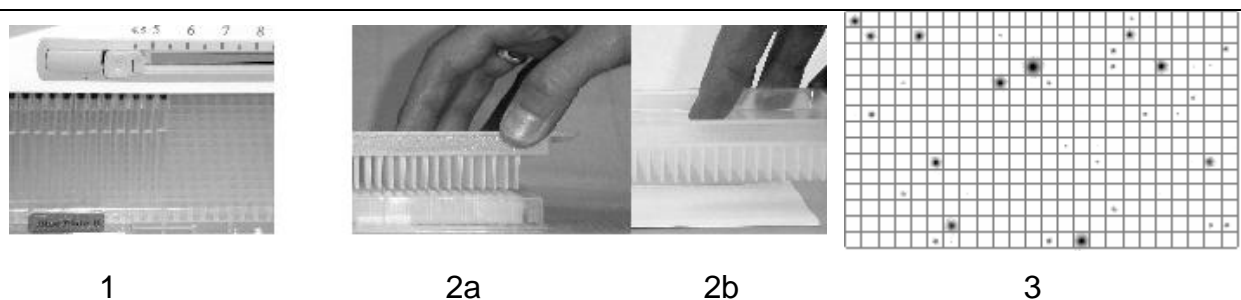

Figure 3:
- Transfer an adequate volume of assay buffer (we recommend 20 μ l/well resulting in a 12.5 μ M peptide solution) into each well to adjust to your desired final substrate concentration. Normally, the peptides are dissolved within 5 min at room temperature. Gently mixing of the MTPs will help to dissolve the peptides. (see Figure 3, 1)
- Use the provided replicator to transfer a sample from each well to the streptavidin-coated flat surface (we recommend Sam²® Biotin Capture Membranes from Promega), please refer to Figure 3, 2a and 2b.
- Expose Sam²[®] Biotin Capture Membranes to a Phosphor-Imager Screen or X-Ray film. For easier handling we recommend to wrap the membranes still slightly wet in plastic foil (e.g. Saran Wrap[®]) before exposure (see Figure 3, 3)